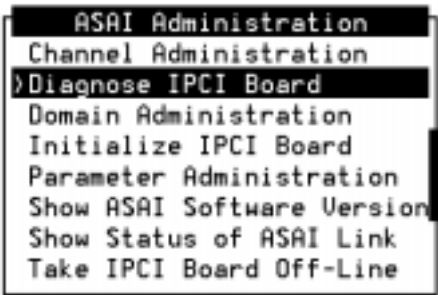

Figure 2-4. ASAI Administration Menu
- The system displays the ASAI Administration menu (Figure 2-4).